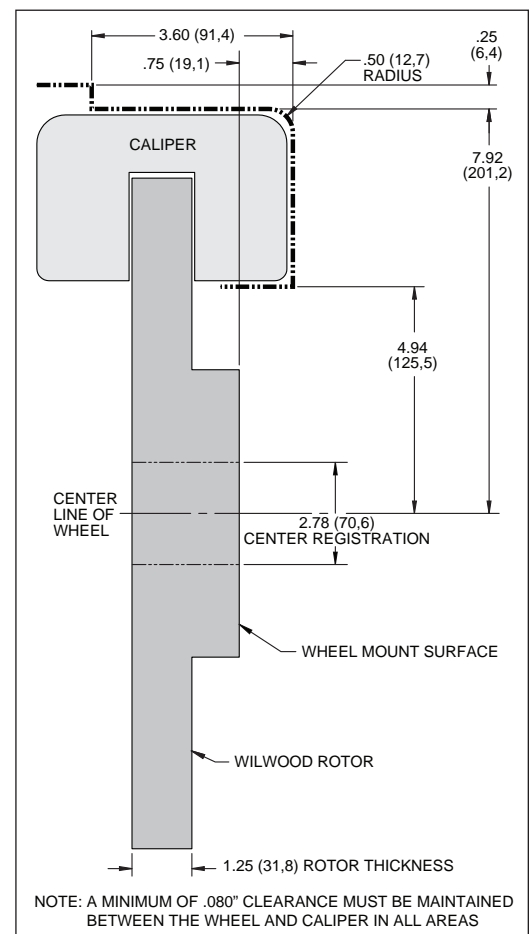

Figure 2. Wheel Clearance Diagram
- Review the wheel clearance diagram (figure 2, page 3) to verify that there is adequate clearance with the wheels you will be using with the installation.
• Verify your wheel clearance using figure 2.